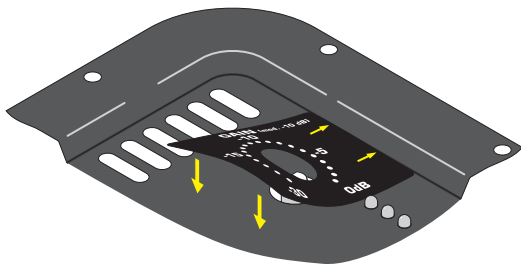

Figure 4. Align the label with the gain control and with the panel recess.
7. Peel the backing off the label and align it with the opening where the gain control is. The right edge of the label should abut the edge of the panel recess (Figure 4).